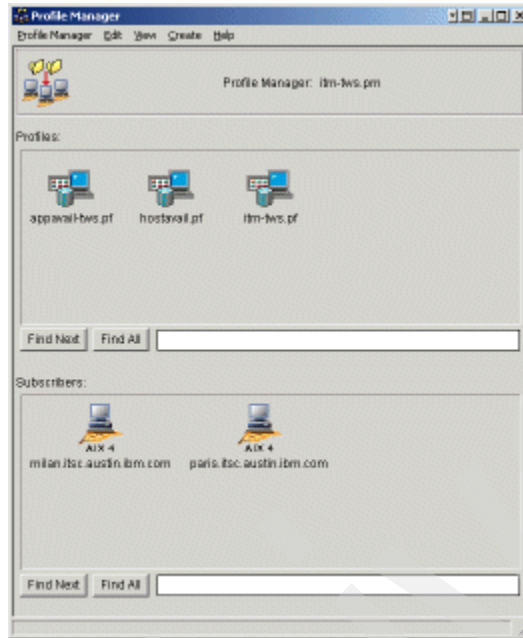

Figure 9-110 Configured itm-tws.pf profile in itm-tws.pm profile manager
12. Select **Close**. You are returned to the Profile Manager window for the itm-tws.pm profile manager, as shown in Figure 9-110 on page 513.